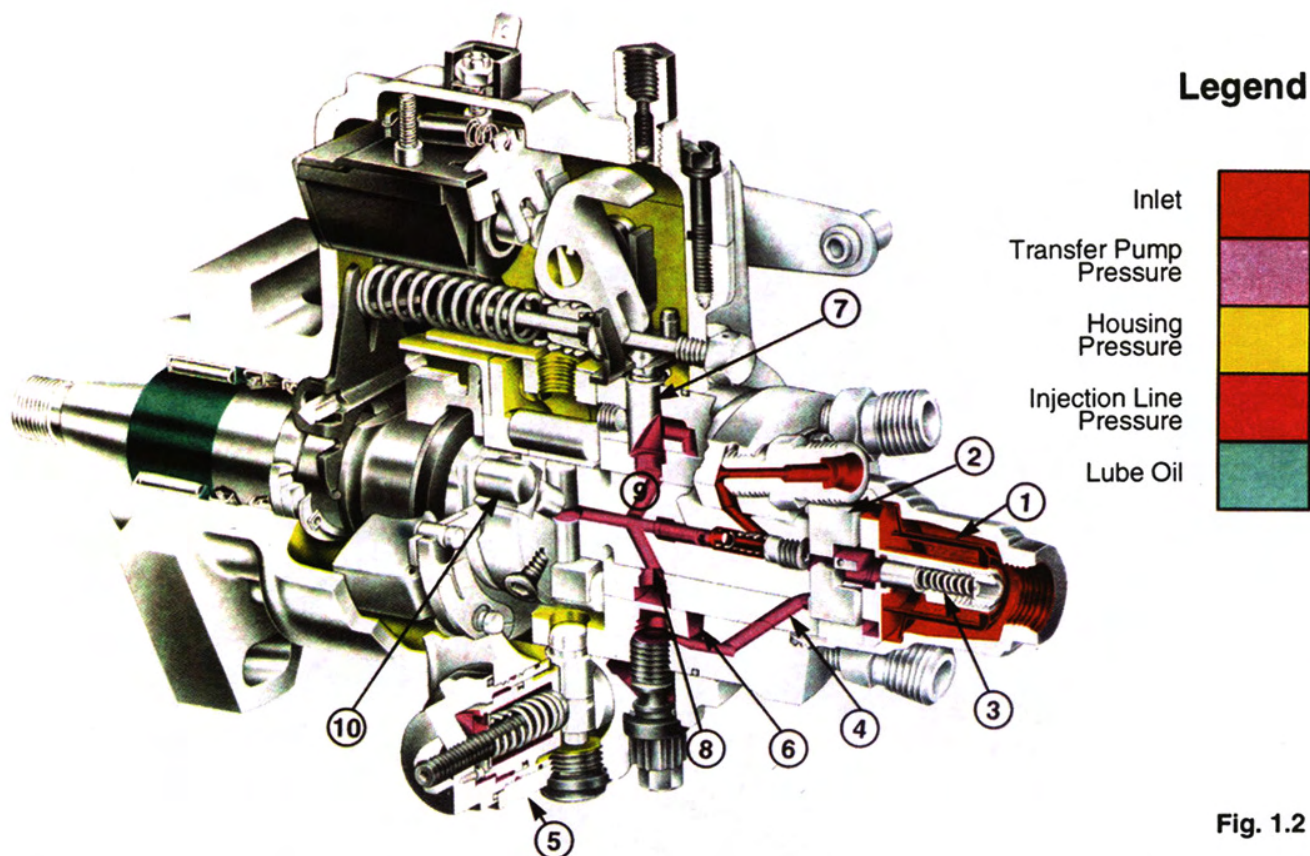

Fig. 1.2
The operating principles of the pump can be understood more readily by following the fuel circuit during a complete pump cycle (Fig. 1.2). Fuel is drawn from the supply tank by an electrical or mechanical supply pump and pressurized to approximately 1 - 8 psi through filters and enters the pump through the inlet filter screen (1) and the vane type fuel transfer pump (2). Some fuel is bypassed through the pressure regulator assembly (3) to the suction side.